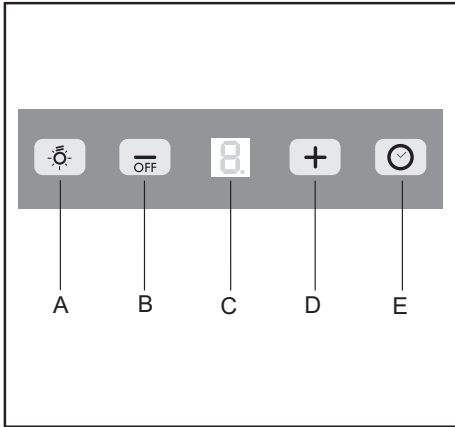

Fig.18
**KONTROLLER:** (Fig.18)
• **Vetfilters/koolstoffilters verzadigd : Fig.18**